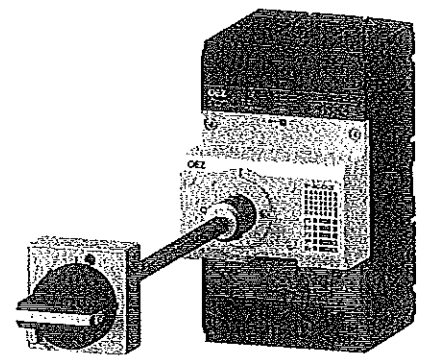

Fig. 2 - DIMENSIONS, see page D27, D31
- b) through the switchboard door (fig. 2)